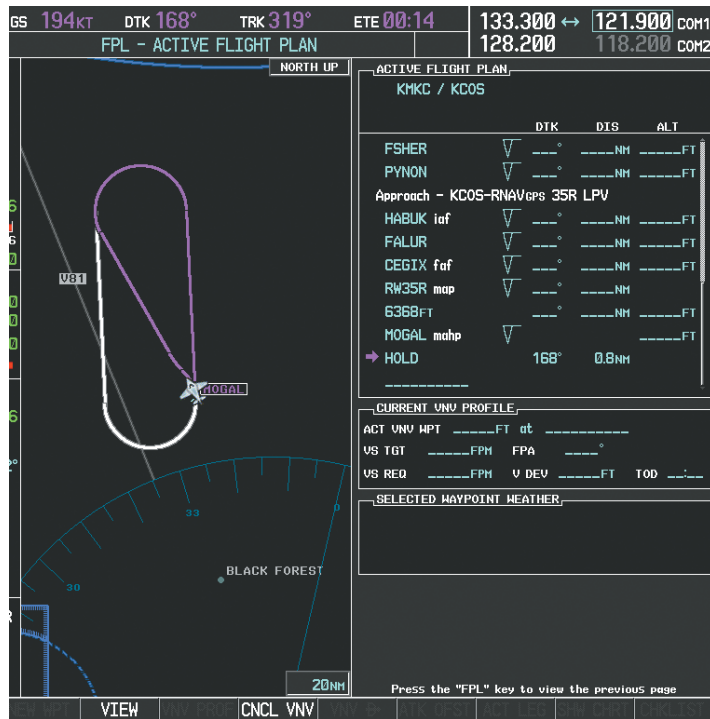

Figure 5-152 Establishing the Holding Pattern
- 26) The aircraft continues climbing to "AT or ABOVE" 10,000 feet at MOGAL. A holding pattern is established at the MAHP (MOGAL) as shown in Figure 5-152.